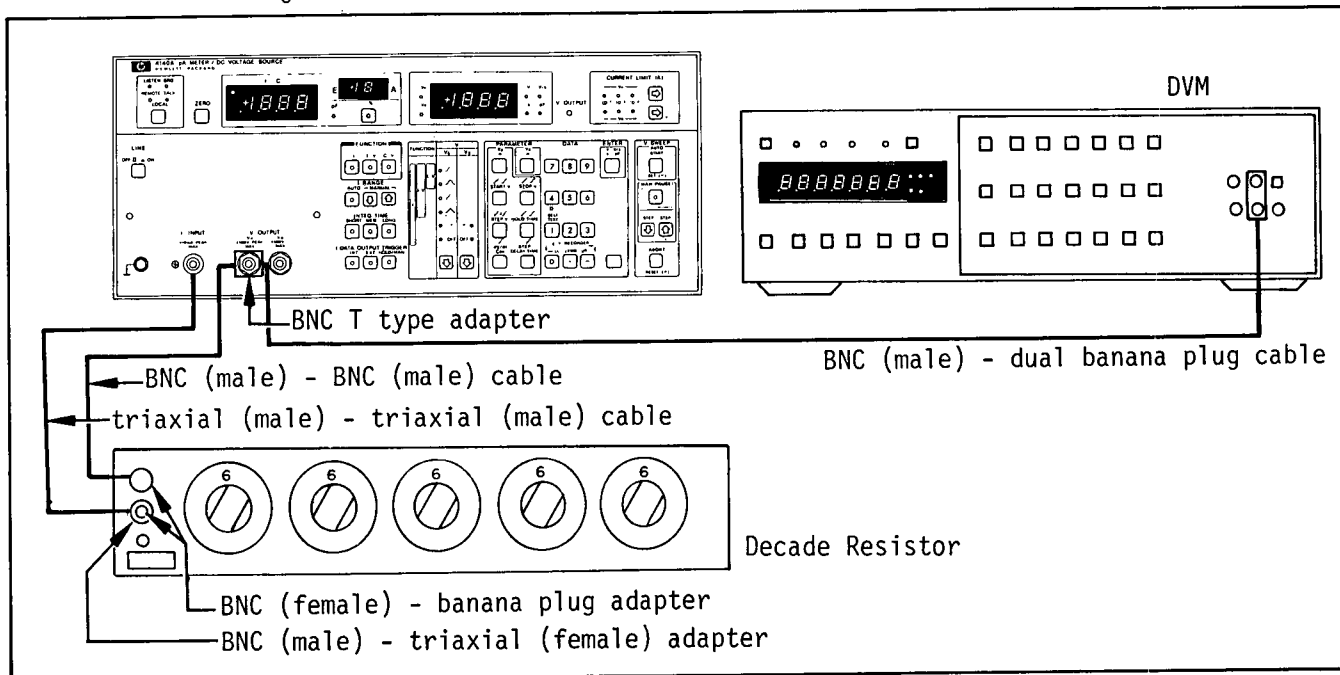

Figure 5-3. pA Meter Gain Adjustment Setup.
1. Connect 4140A, DVM and Decade Resistor as shown in Figure 5-3.